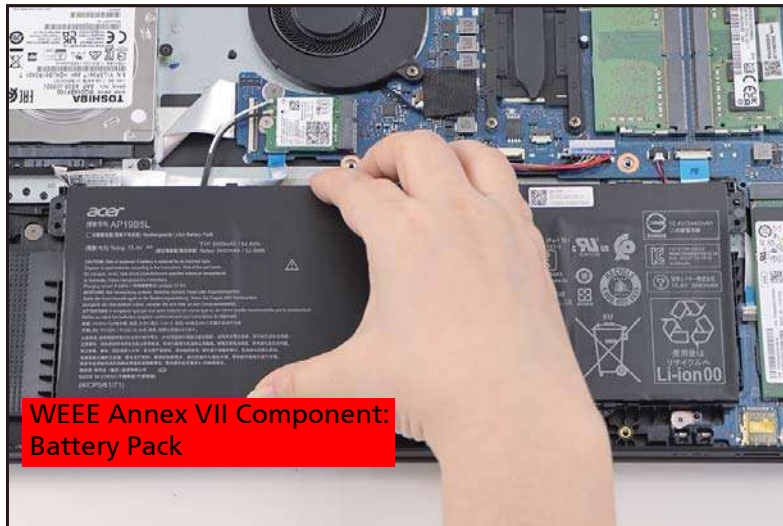

Figure 3-9. Battery Pack Removal
5. Remove the battery pack from the system (Figure 3-9).